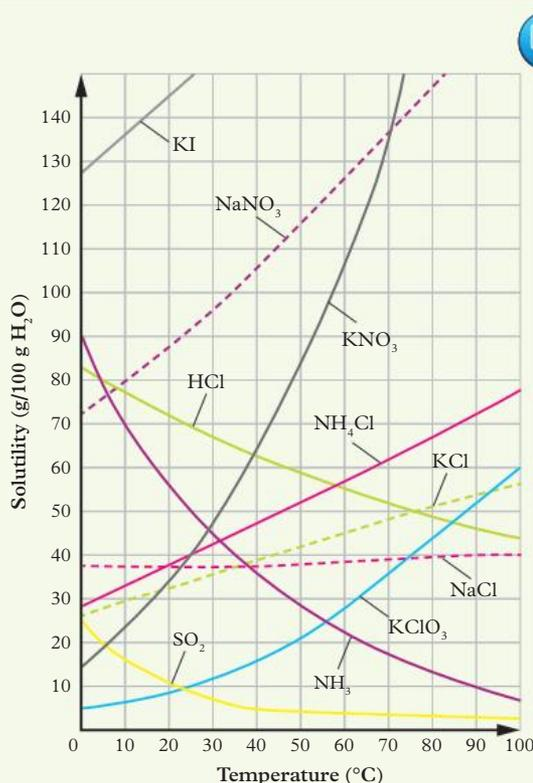

FIGURE 9 The solubilities of some ionic and molecular (covalent) substances in water
- 6 Use the solubility graph in Figure 9 to answer the following questions.
- 7 Use the solubility graph in Figure 9 to describe how a student could make a supersaturated solution of NH_4Cl .